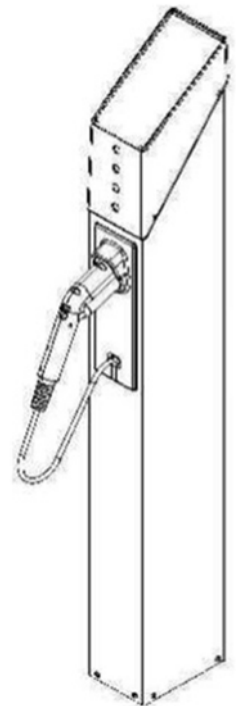

Figure 8 – Completed Installation
13. Return the charging cable to the cord reel by pulling cable approximate  $\frac{1}{2}$  inch to allow cable to retract into L1 PowerPost® EVSE. Place charging coupler into connector storage receptacle. (See Figure 8)